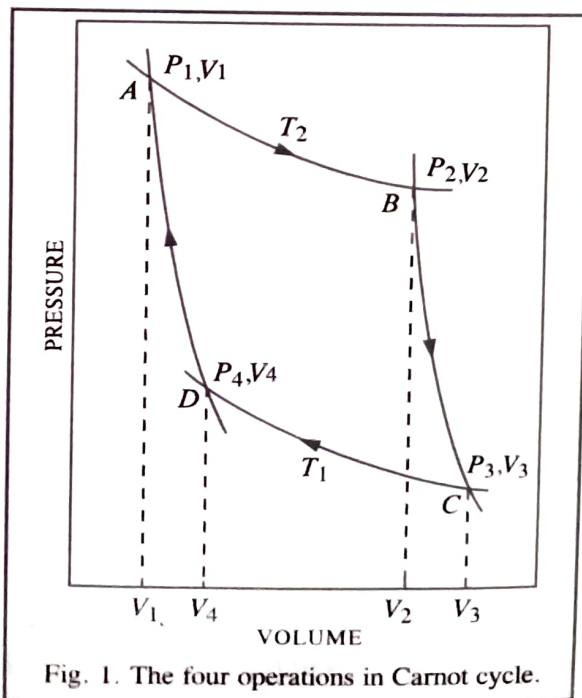

Fig. 1. The four operations in Carnot cycle.
**I. Stroke 1. Isothermal Expansion.** The gas is allowed to expand reversibly and isothermally at the temperature  $T_2$  so that the volume increases from  $V_1$ , represented by the point *A*, to  $V_2$  represented by the point *B* (Fig. 1.). Since in the isothermal expansion of an ideal gas  $\Delta U=0$ , it follows from the First law equation (*viz.*,  $\Delta U=q+w$ ) that  $q=-w$ , *i.e.*, the heat absorbed is equal to the work done by the system on the surroundings. Let  $q_2$  be the heat absorbed by the system at the temperature  $T_2$  and  $w_1$  be the work done by the system on the surroundings. Then